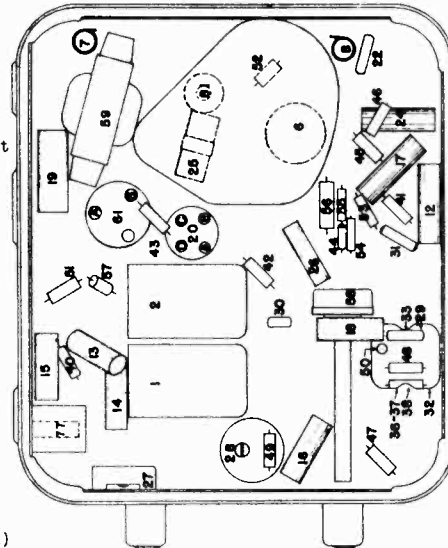

FIG. 3--PARTS LAYOUT--Bottom View
- (d) Adjust the R-F parallel trimmer on the condenser gang (top section) and the antenna compensating condenser, (Illus. 27, Fig. 3) for maximum output.
- (c) Maintain a low output signal from the signal generator and readjust the oscillator tracking condenser (Illus. 28, Fig. 3) while rocking the variable condenser gang tuning shaft back and forth through the signal.
- (a) Recheck alignment of R-F section of condenser gang and antenna compensating condenser (Illus. 27, Fig. 3) as given in paragraph 3.